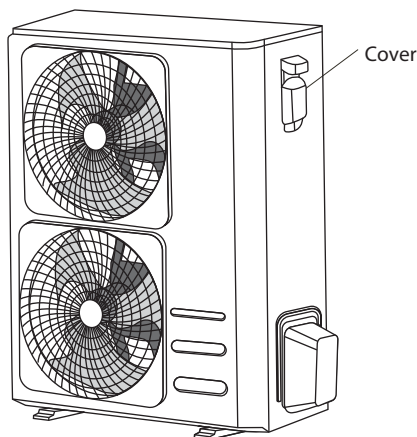

Fig. 12.1
2. Remove the electric cover of the outdoor unit. (See Fig. 12.1)